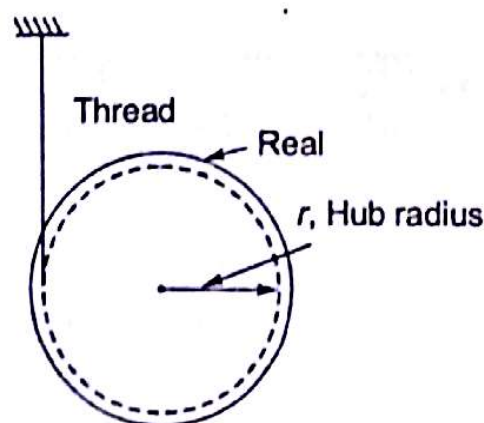

Fig. 18.21
18.9 A reel of mass "m" and radius of gyration "k" is rolling down smoothly from rest with one end of the thread wound on it held in the ceiling as depicted in the Fig. 18.21. Consider the thickness of the thread and its mass negligible in comparison with the radius 'r' of the hub and the reel mass "m". Symbol "g" represents the acceleration due to gravity.